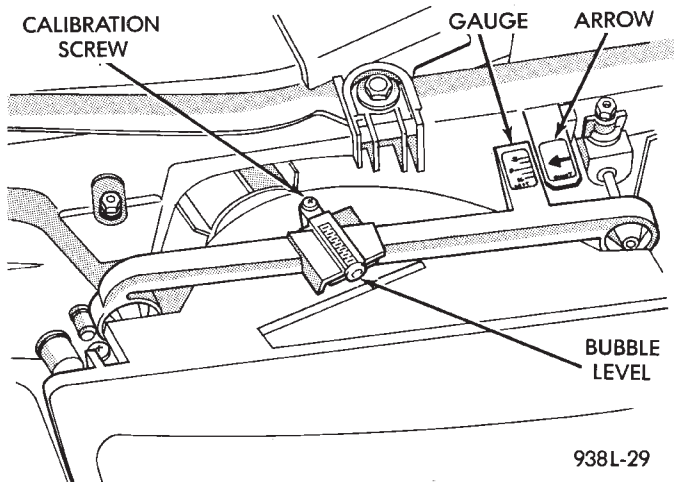

Fig. 2 Headlamp Bubble Calibration
- (3) Rotate bubble level calibration screw in or out until bubble is centered in the vial (Fig. 2).
- (4) Center arrow sticker to gauge sticker for left/right reference.